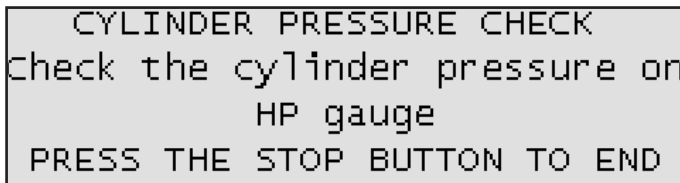

Fig. 24: Cylinder pressure check screen
2. Screen will display message shown in Fig. 24.